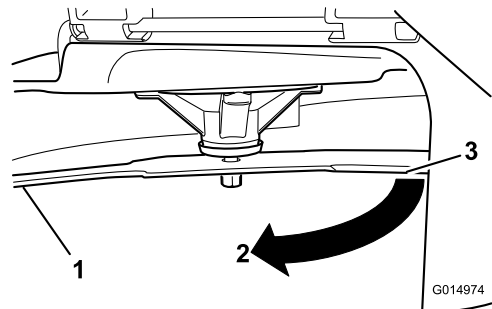

Figure 59
4. Rotate the same blade 180 degrees so that the opposing cutting edge is now in the same position (Figure 59).